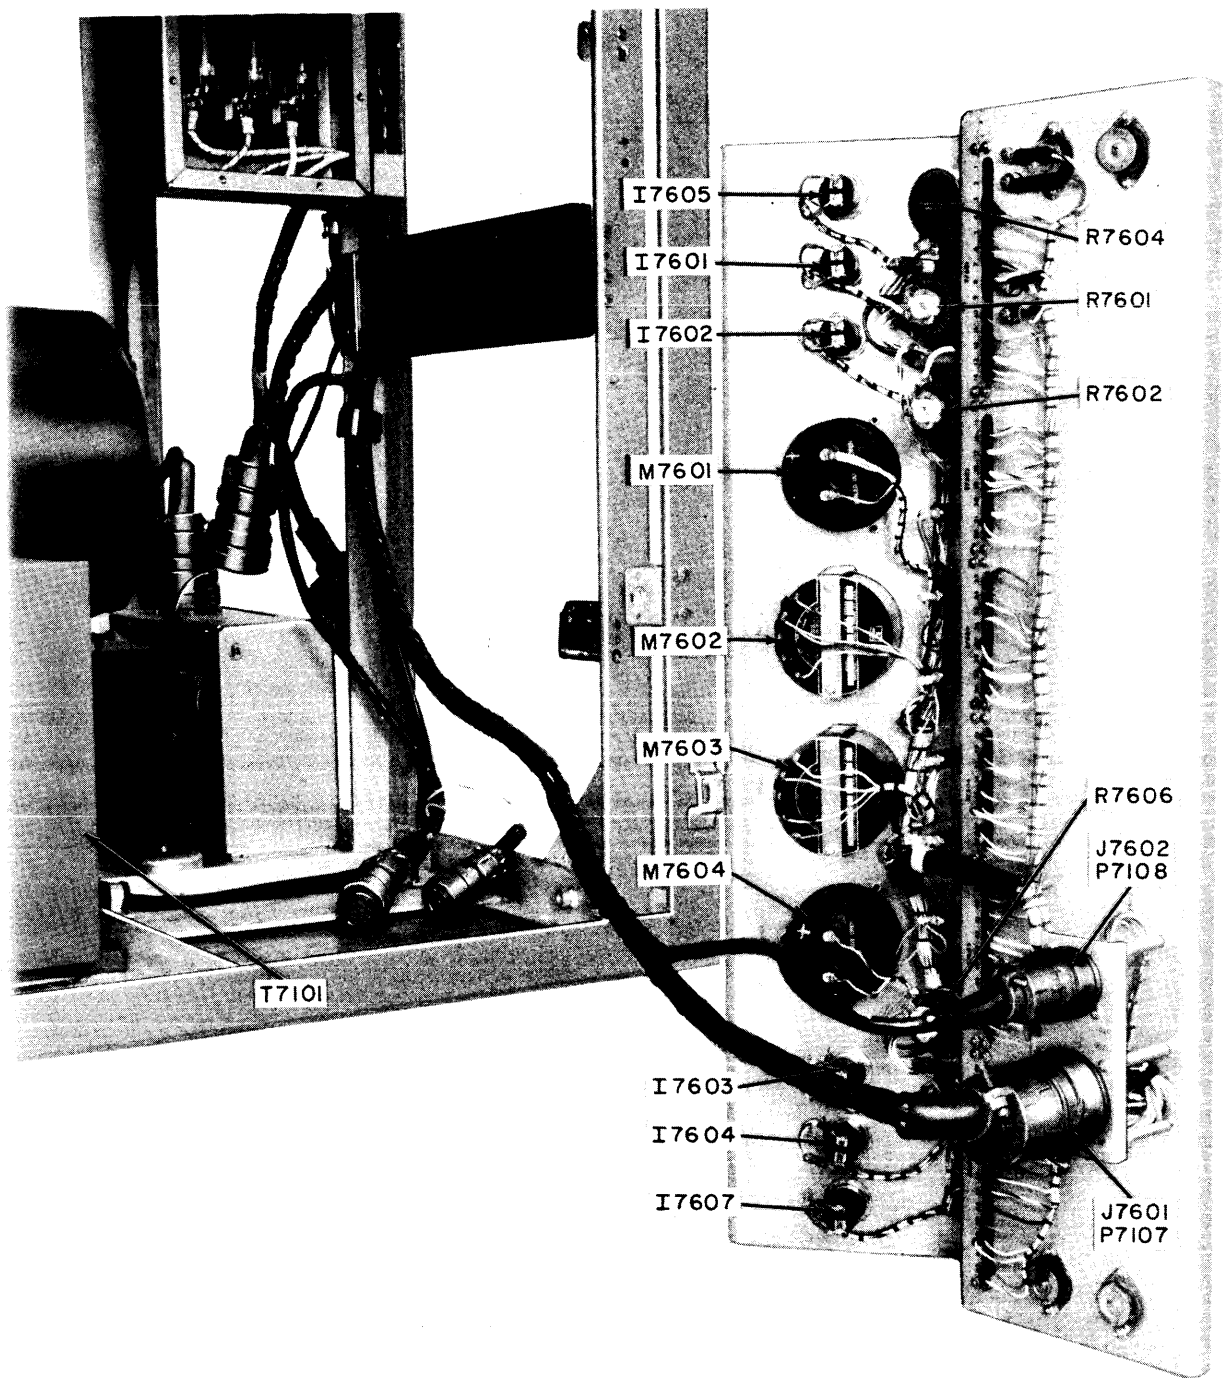

Figure 4-5-8. Rear View with Callouts, Indicator Control Panel, GPT-40K
b. LOCATION DATA. - Figures 4-5-8 through 4-5-10 show views, with callouts, of the principal components mounted on the power supply frame, chassis.